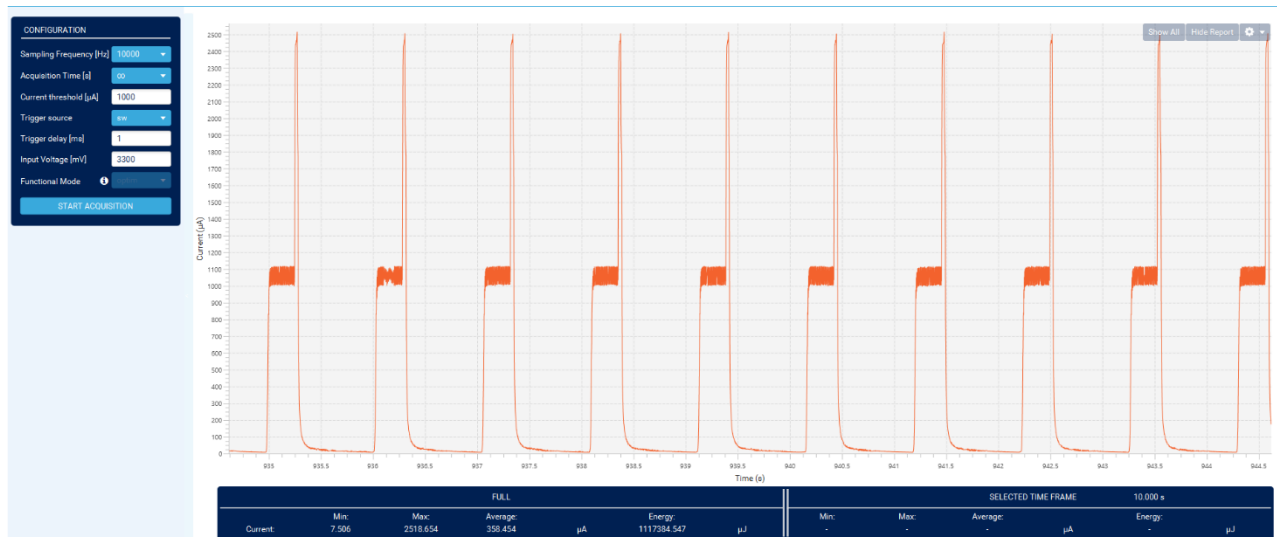

Figure 11 : Real time consumption without sending any query. Average consumption is $358 \mu\text{A}$
- Without “send data” query (figure 11).